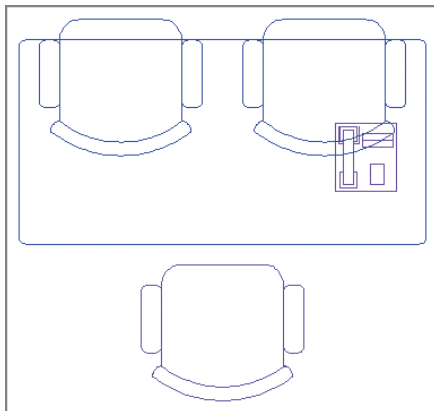

FIGURE 7.25 Redefining the chair block causes the chairs to lose their original orientation.
8. Select the Convert To Block radio button in the Objects section of the Block Definition dialog box and click OK. Click Redefine Block in the Block – Redefine Block dialog box that appears. Figure 7.25 shows the result: All three chair block references are updated.